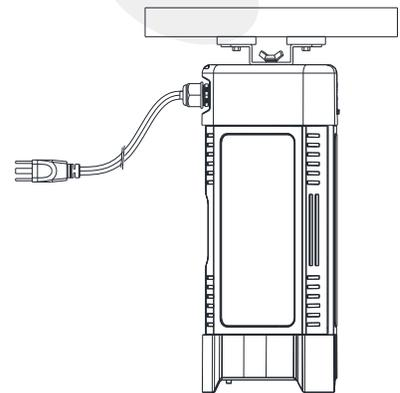

Figure 11
2. Attach the fixture to the iron plate(Figure11). Pay attention to the fragile magnet.